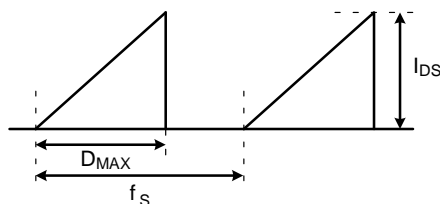

Figure 4. Repetitive Peak Switching Current
- Repetitive peak switching current when the inductive load is assumed: Limited by maximum duty (D_{MAX} = 0.73) and junction temperature (see Figure 4).